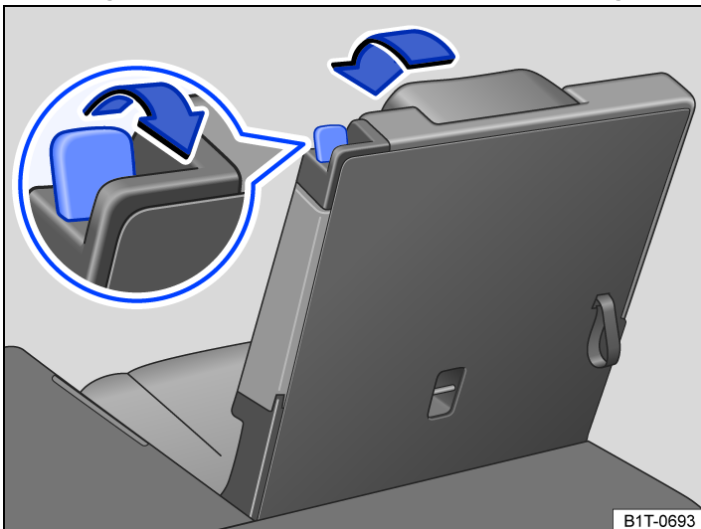

Fig. 1 Third row seat: folding the rear seat into the cargo floor position.
8. To release the rear seat backrest, pull the release lever → *fig. 1* all the way back.